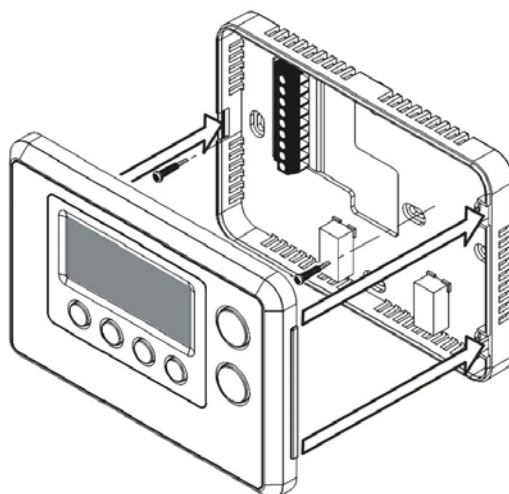

Figure 3. Install the front housing
4. Fasten the back housing to the wall using the two included mounting screws. Insert the screws through the mounting holes in the housing and into the wall anchors. (Figure 3)